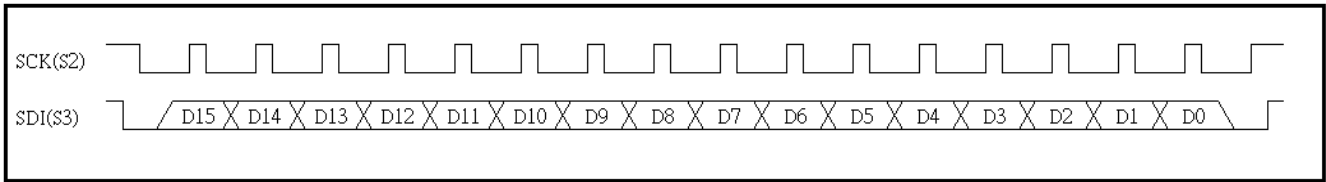
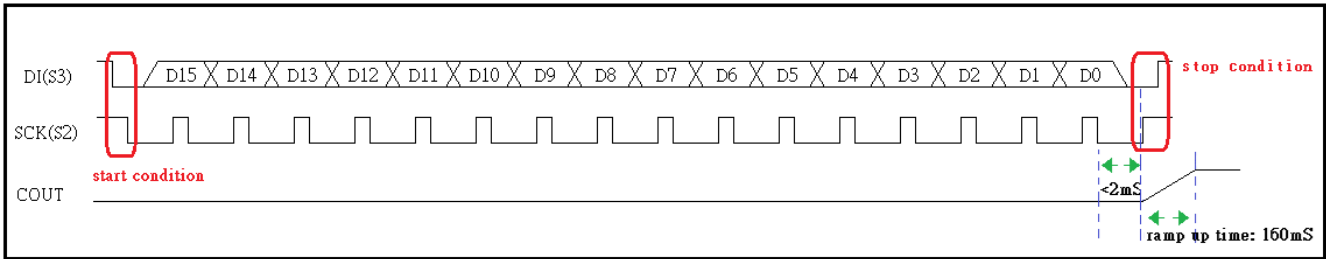
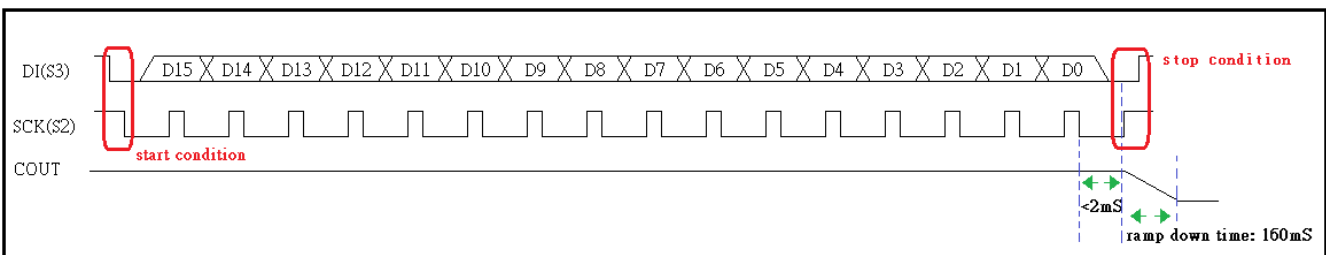

Fig.19 I2C Command timing
Fig. 20 Power-Up command timing
Fig. 21 Power-Down command timing
- (1). Load Voice Group Address :
- a. Command timing reference Fig.19 I2C Command timing.
- (2). Play Voice Group Address :
- (3). Power up with RAMP-UP(PU2) or without RAMP-UP(PU1) :
- a. Command timing reference Fig. 20 Power-Up command timing.
- (4). Power-down with RAMP-DOWN(PD2) or without RAMP-DOWN (PD1) :
- a. Command timing reference Fig. 21 Power-Down command timing.
- (5). Volume Set (VOL[3:0]) :
- (6). Volume - - (VOL--):
- (7). Volume + + (VOL++):
- (8). Pause and Resume (PAUSE; RESUME) :
- (9). Rewind :